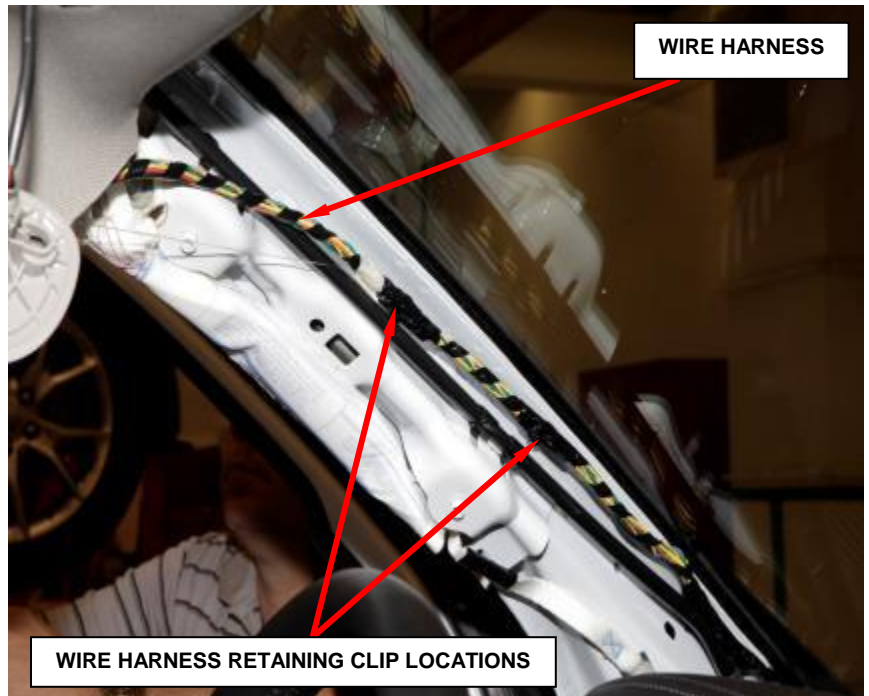

Figure 18 – A-Pillar Wire Harness
- 29. Release the wire harness retaining clips from the right and left A-pillars (Figure 18).
9. Install the wire harness retaining clips on the right and left A-pillars (Figure 18).